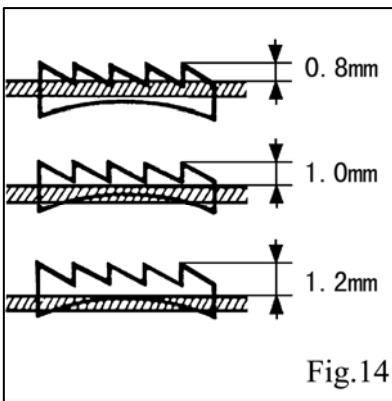

Fig.14
10. Adjustment of Feed dog height (Fig.14)